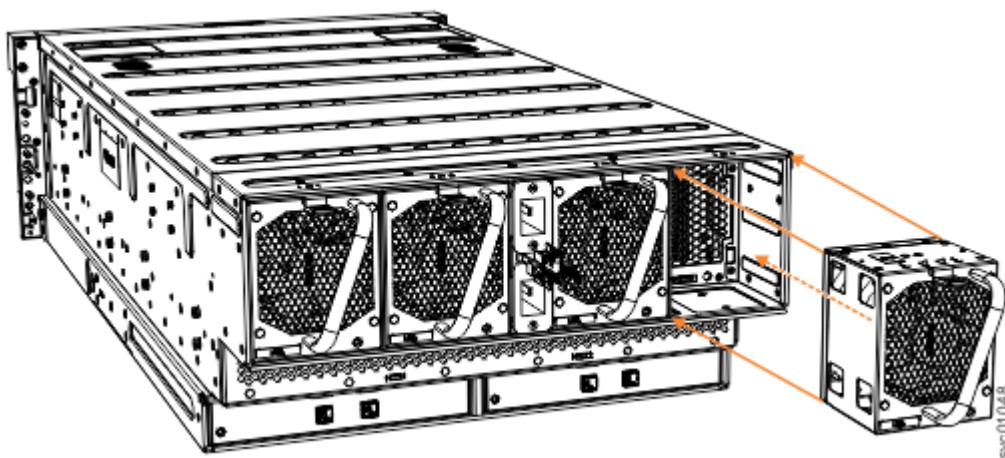

Figure 80. Replace fan module
2. Carefully insert the fan module into the chassis until it clicks in place, as shown in Figure 80 on page 76.